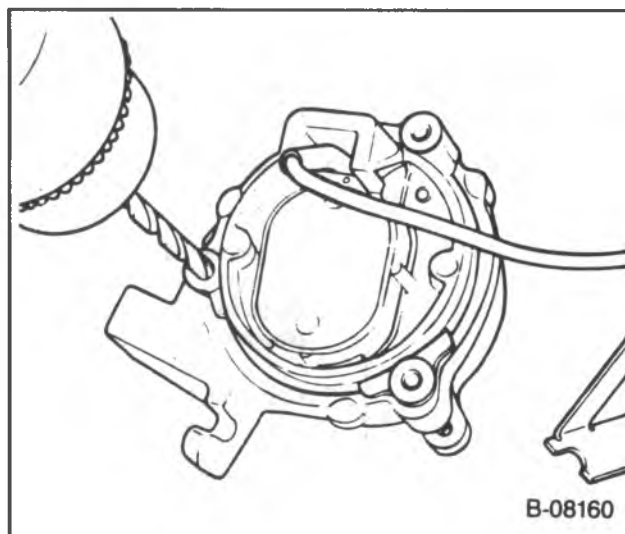

Figure 9 — Drilling the Choke Coil Rivets
Remove or Disconnect (Figure 9)
- Align a #21 drill (0.156-inch) on the rivet head and drill only enough to remove the rivet head (figure 9).